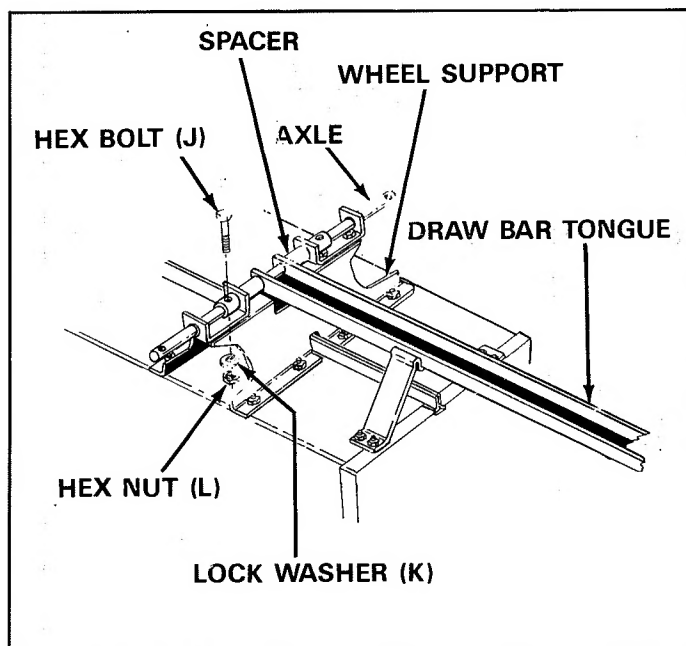

FIGURE 13
19. Assemble axle, (2) tube spacers and draw bar tongue to wheel support keeping open side of tongue facing up, make sure that latch lock snaps over latch stand. Secure axle to wheel support or axle brackets, using 1/4" x 1-3/4" long hex bolts (J), lock washers (K)) and hex nuts (L). See figure 13.